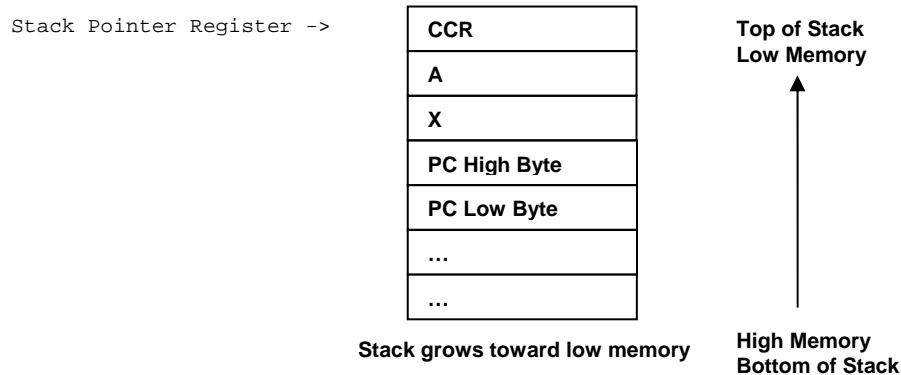

Figure 3-3
Upon entering `OSCtxSw()`, SWI pushes the majority of the interrupted tasks context on to the interrupted tasks stack. Notice the absence of the `PPAGE` and `H` register as shown in figure 3-3 below. These registers must be manually saved and restored by the μC/OS-II port. For non-banked projects, the `PPAGE` is exempt from this requirement.
- L3-6(9) Obtain and restore the new tasks `PPAGE` register. Recall, that the `PPAGE` register is not automatically restored by the `RTI` (Return from Interrupt) instruction. In fact, for the non-banked **μC/OS-II** port, `PPAGE` must not be restored. Once `PPAGE` has been removed from the stack, the new tasks stack looks like that of figure 3-3 and is ready to be restored automatically by the `RTI` instruction.
- L3-6(10) Return from interrupt. This instruction automatically pops `PC`, `X`, `A`, and `CCR` from the current stack pointed to by the stack pointer register. The new task is now running from where it left off prior to its last preemption.